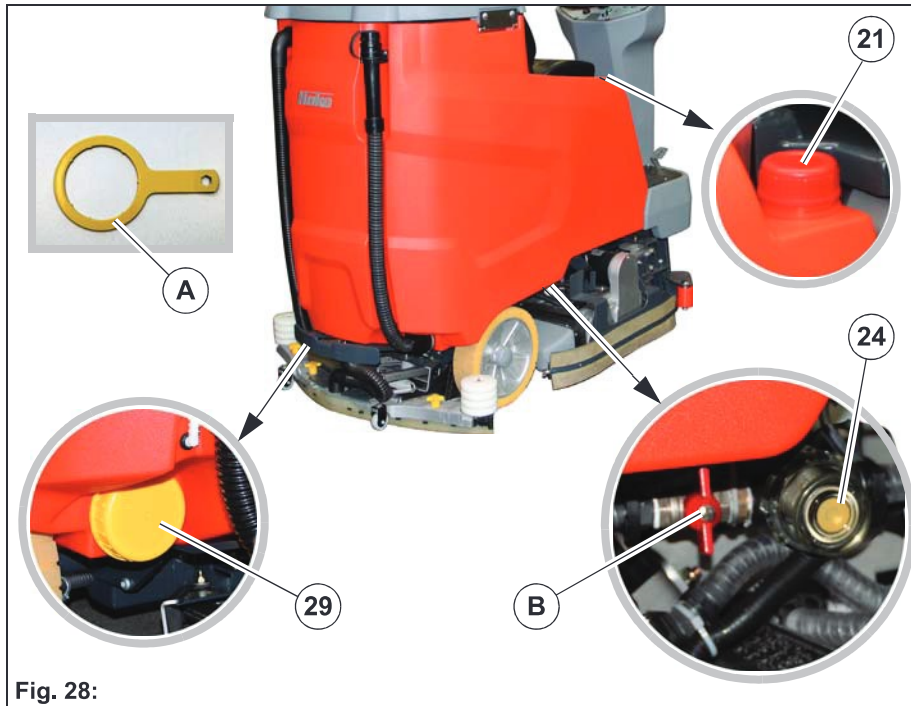

Fig. 28:
1. Close the ball cock **Fig. 28-B** located in front of the fresh water filter.
To facilitate loosening and closing the cover, use the supplied handle **Fig. 28-A**.
2. Close the ball cock **Fig. 28-B**.
To facilitate loosening and closing the cover of the maintenance unit, use the supplied handle **Fig. 28-A**.
1. Close the ball cock **Fig. 28-B**.